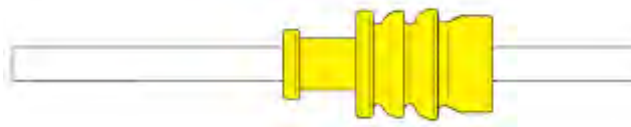

Figure 122
- (1) Ensure end of wire is cut flush, then install new wire seal onto wire and move far enough onto wire to allow wire stripping, as shown in Figure 122.